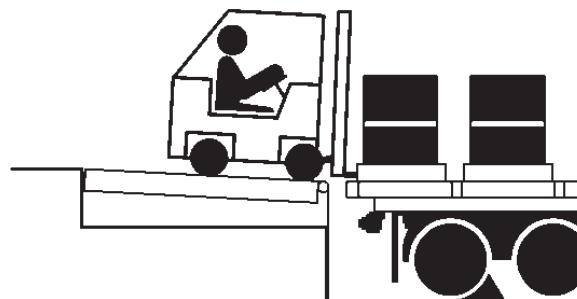

Figure 21
7. Proceed with loading or unloading (see Figure 21).